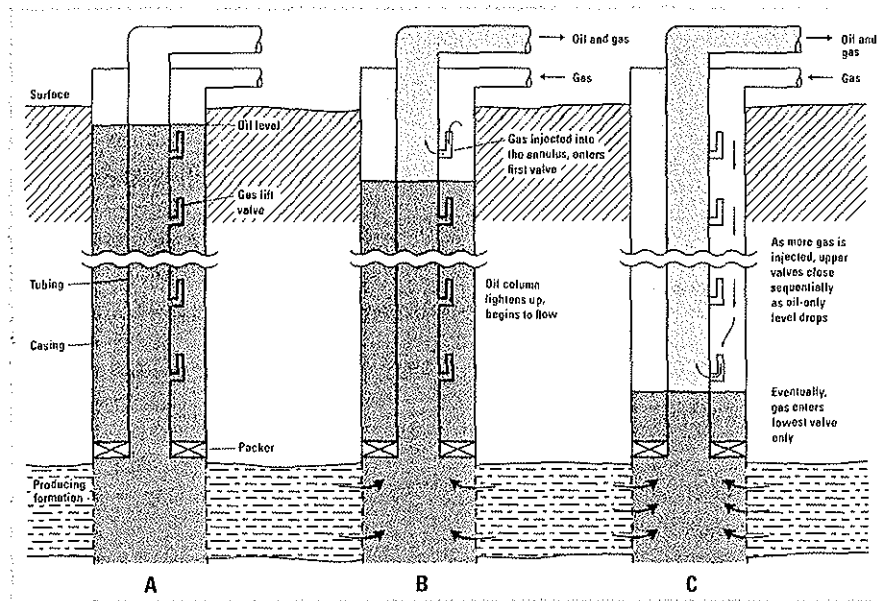

Fig. 8-10. Operating sequence of a well equipped with gas lift valves
**Gas lift.** Both beam pumping and ESPs push fluids up the production tubing. An alternate method, gas lift, is to inject gas into the annulus between the production tubing and the casing and then into the production tubing by a series of valves (fig. 8-10). The gas makes the column of fluid